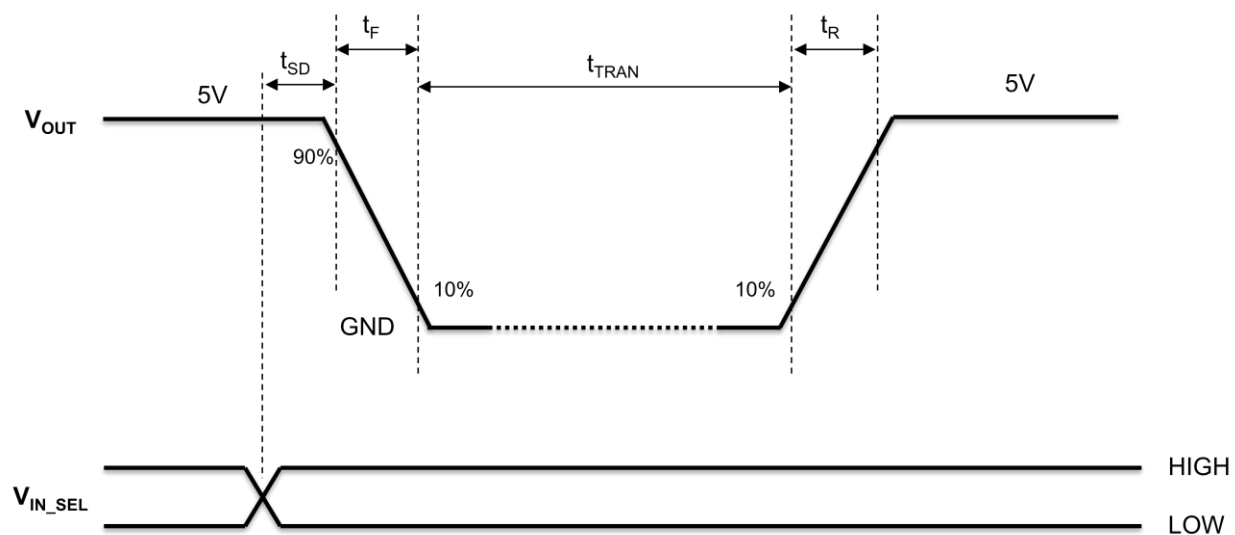

Figure 6. Transition Delay ($V_{IN}=V_{BUS}=5\text{ V}$)
- $t_{SD}/t_{TRAN}/t_R/t_F$ are defined in Figure 6.